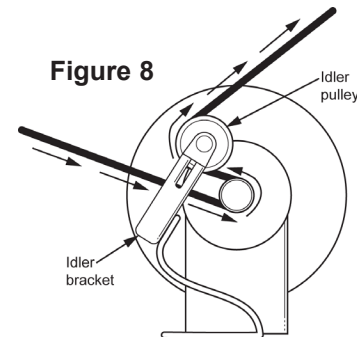

Figure 8
5. Pass the free loop of the belt through the idler bracket and under the pulley. The belt is then looped over the motor pulley. See Figure 8.